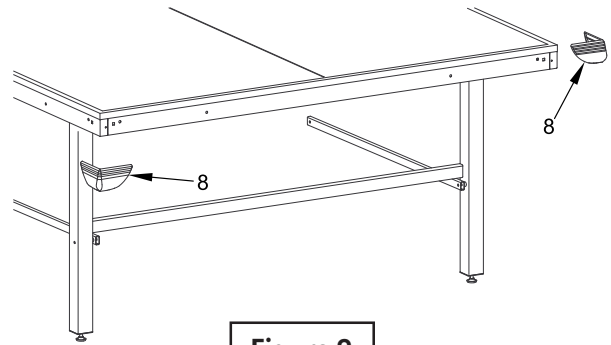

Figure 9
18. Attach Corner Protectors #8 to all four outer corners of table tops. See Figure 9.